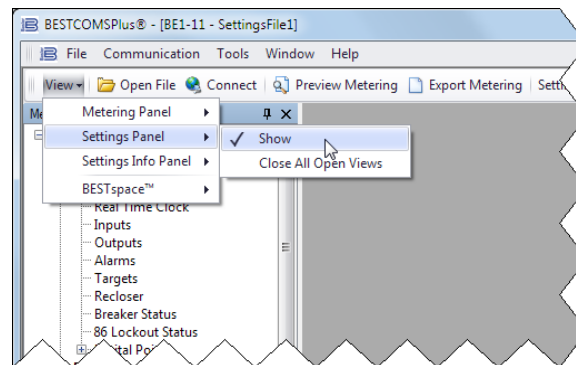

Figure 2-8. View Drop-Down Button
Click the View drop-down button to switch between the Settings Explorer and Metering Explorer or split the view between both. The Settings Info Panel displays settings ranges. A workspace can be opened, saved, or set as default. See Figure 2-8.
- Step 4: Click on the View drop-down button and de-select Show Metering Panel and Show Setting Information. See Figure 2-8. This maximizes the settings workspace.